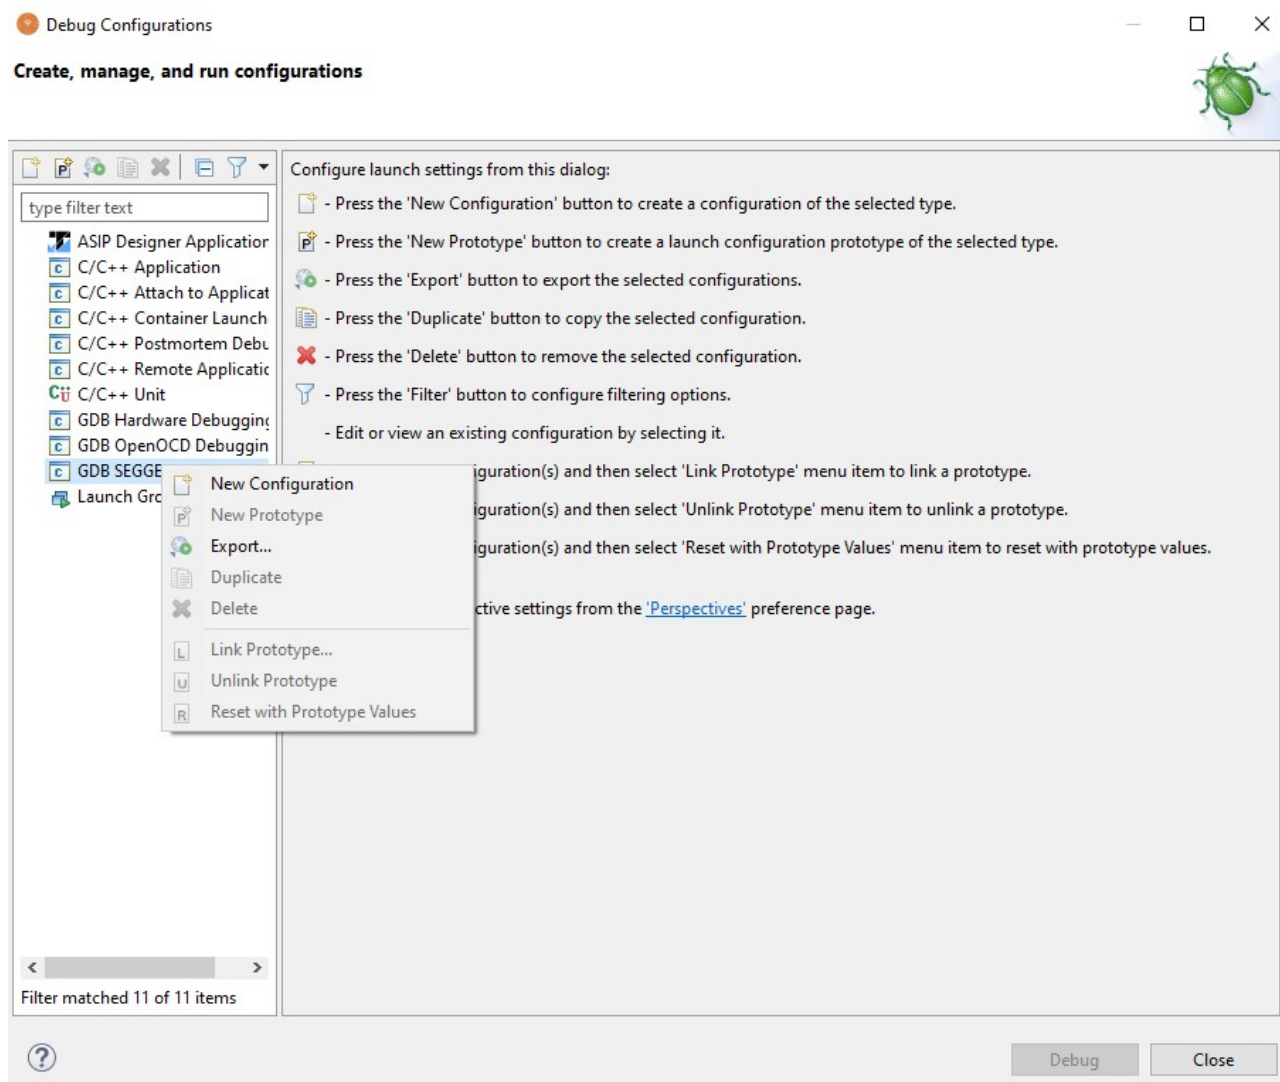

Figure 21. Arm Cortex-M3 Processor Debug Configuration, Step 2
2. The **Debug Configurations** dialog is displayed. Right click on the **GDB SEGGER J-Link Debugging** configuration type and select **New** (see figure "Arm Cortex-M3 Processor Debug Configuration, Step 2" (Figure 21)).